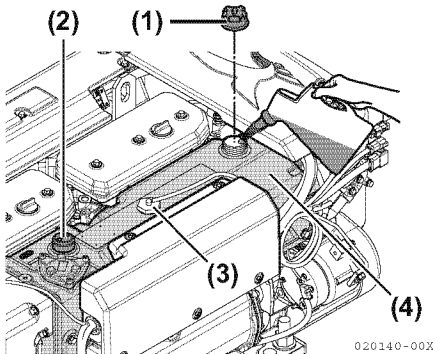

Figure 11
2. Loosen the filler cap (**Figure 11, (1)**) of the coolant tank to relieve the pressure, then remove the filler cap. **WARNING! NEVER remove the coolant filler cap if the engine is hot. Steam and hot engine coolant will spray out and seriously burn you. Allow the engine to cool down before you attempt to remove the cap.**
3. **NOTICE: NEVER pour cold coolant into a hot engine.** Pour coolant slowly into the coolant tank (**Figure 11, (4)**) to avoid air bubbles. Fill until coolant overflows from the filler port.